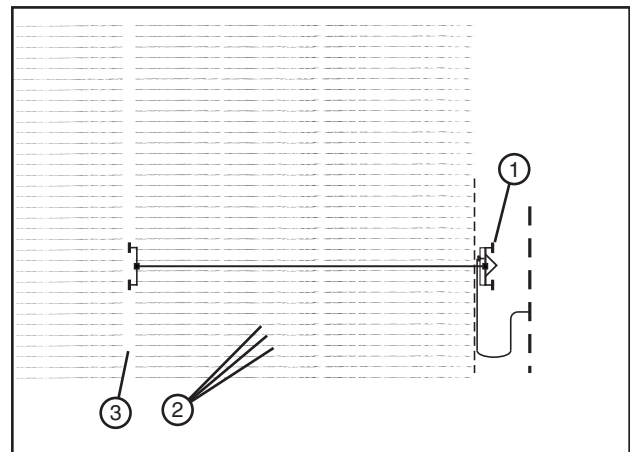

Figure 35-2 Perpendicular Travel
Use the following method to establish perpendicular wheel tracks. See figure 35-2.
1. Plant the crop perpendicular to the linear system. See figure 35-2.